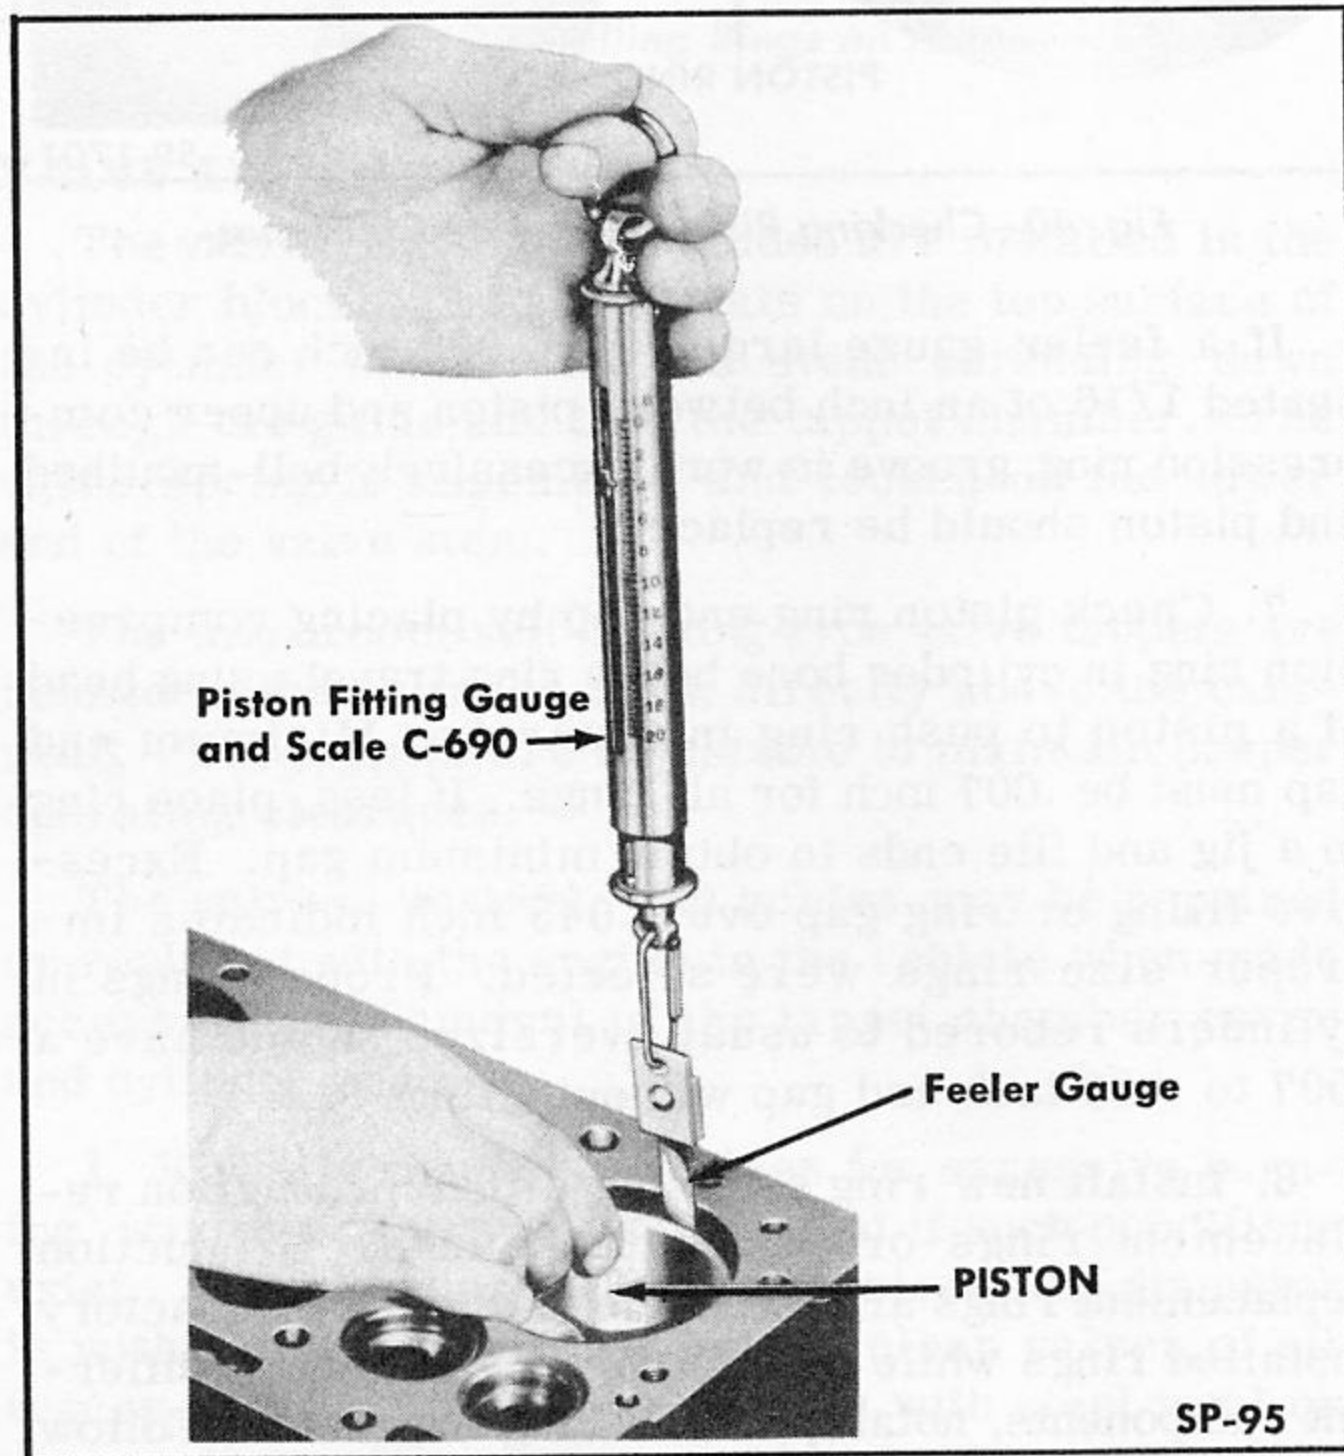

Fig. 35—Fitting Piston in Cylinder Bore
1. Check fit of each piston to cylinder bore, when block and pistons are clean and dry and at approximately 70° F, by using Piston Fitting Gauge and Scale C-690 as shown in Fig. 35. Use a .004 inch thickness gauge (1/2 inch wide) if old pistons are to be used. When fitting new pistons, use .0015 inch gauge. The piston is fitted upside down in block to facilitate the operation, and the gauge must extend the full length of piston on the thrust side (side opposite slot in piston skirt). Scale should register 5-10 pounds pull to remove thickness gauge from between cylinder wall and piston. Excessive pull indicates need for a slightly smaller piston or additional honing of cylinder. Insufficient pull indicates need for fitting a larger piston.